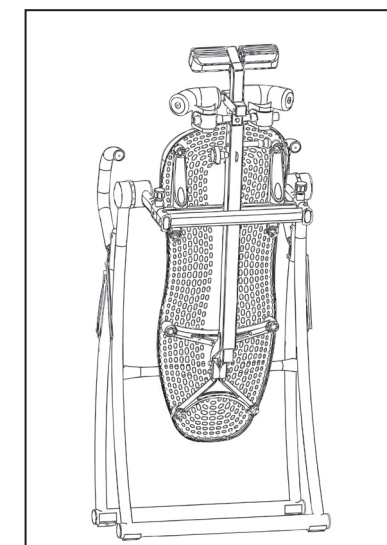

Figure 23
- Pull up on the Spreader Arms to fold the A-frame (Figure 23)